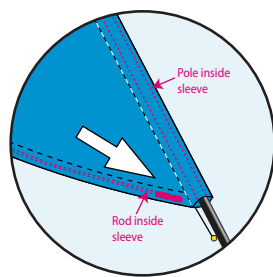
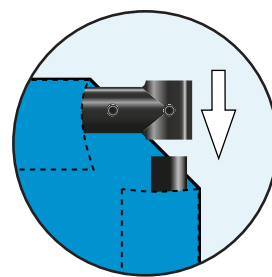

Fig 8.
Fig 9.
7. Push the carbon rod completely into the sleeve right down to the bottom, (Fig 8) this enables you to mount the arm T joint over the vertical 28mm pole section. (Fig 9)